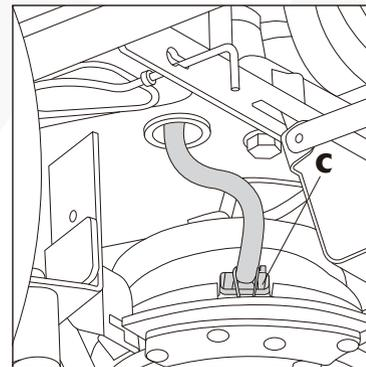

Fig. 27B
4. Unplug the electromagnetic clutch harness from its connector (c, Fig. 27B).